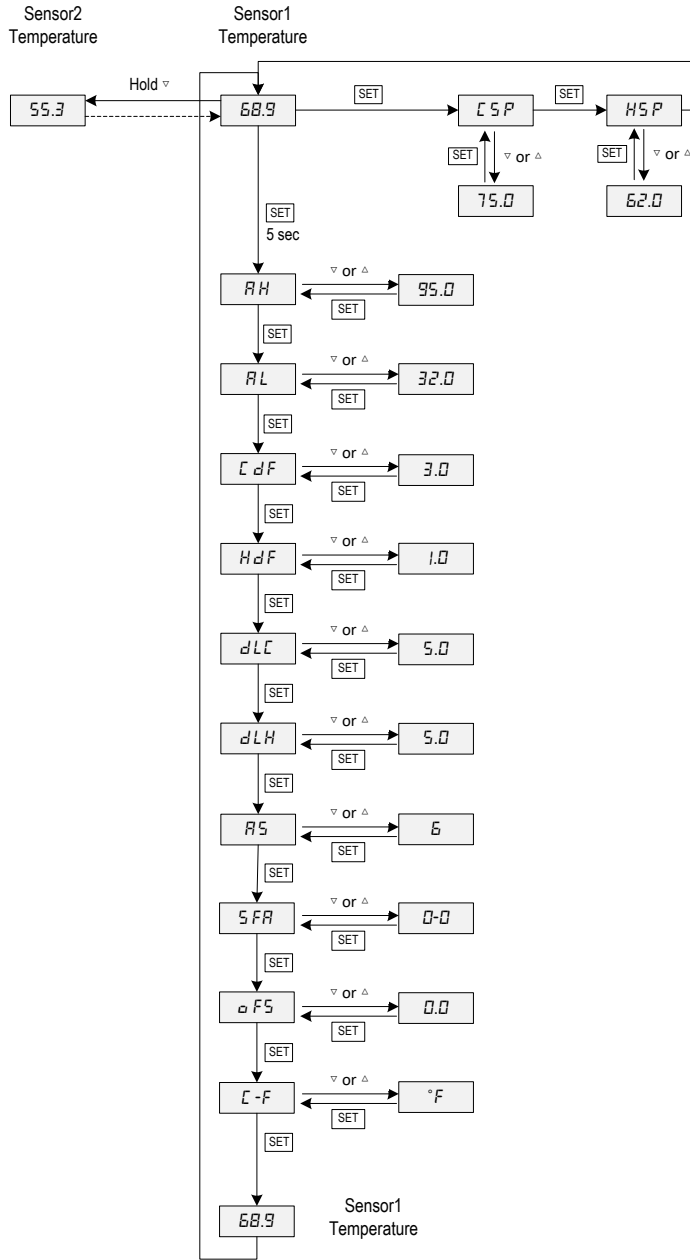

Figure 2. Flow chart of checking sensor readings and parameters.
- 3) Set up the program and system parameters. Please read the rest of this manual for details. See the flow chart in Figure 2 for how to check temperature and change parameter settings.
Please see Figure 2 for a flow chart of how to access the parameters on this controller. To check the temperature reading from Sensor2, press and hold DOWN key. When you release the DOWN key, the controller will show temperature from Sensor1 again.